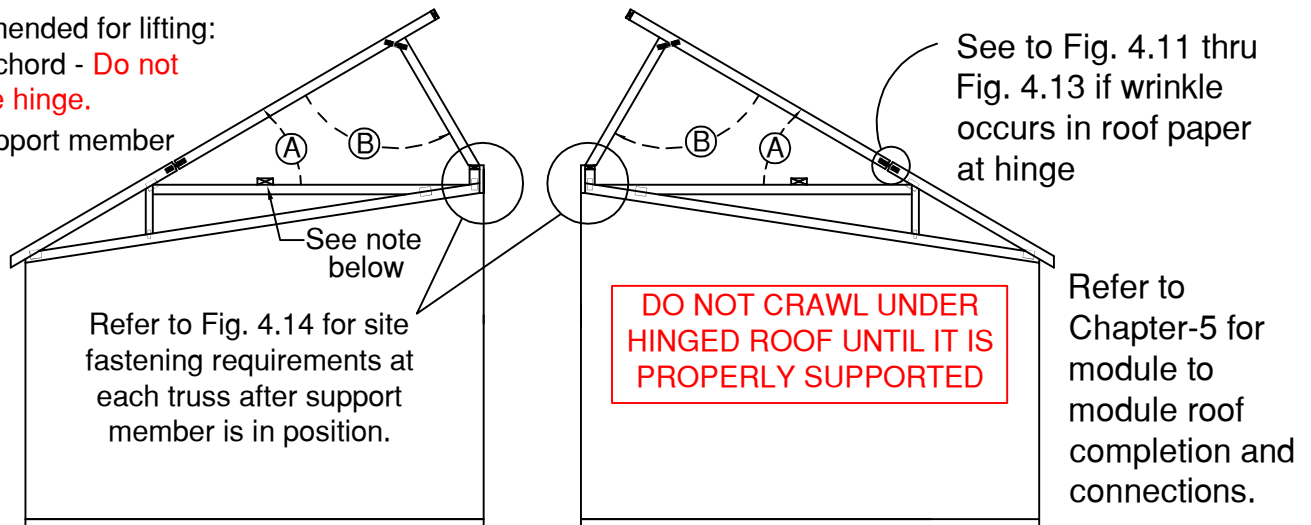

Fig. 4.9 - Roof (Raised Position)
4. Raise the hinged roof high enough to allow the hinged top chord support members of the trusses to be moved into their support position. These support members or (knee wall members) have also been tied together in 8 to 12 foot sections at the factory so that they can be to facilitate ease of placement. These support members will typically rest upon the king post block at the mating side of the home section. **DO NOT OVER RAISE THE ROOF SECTION** as this can damage the main truss hinge. Refer to Fig. 4.9 for illustration and fastening requirements.